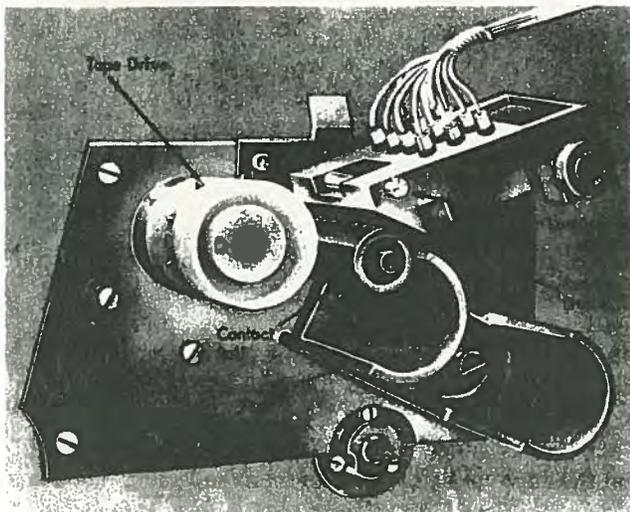

Figure 3-60. 1056 Program Tape Reader
2. Release the reading brushes by pulling outward on the knurled locking rod (Figure 3-60).